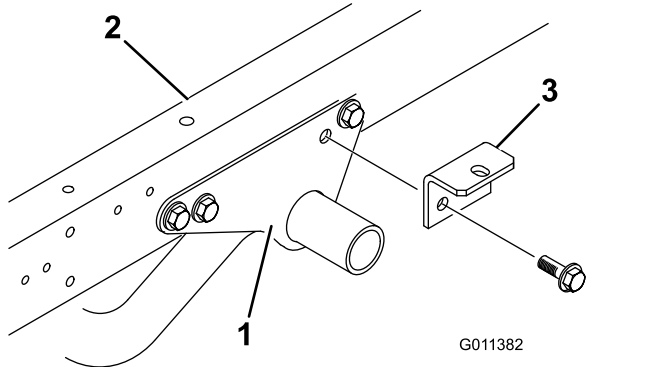

Figure 5
1. Remove 2 flange-head cap screws and flange locknuts securing rear of each engine frame mounting bracket to each side of vehicle frame (Figure 5).
2. Loosely secure an attachment bracket to each engine frame mounting bracket and vehicle frame with (2) flange-head cap screws and flange locknuts previously removed (Figure 5).